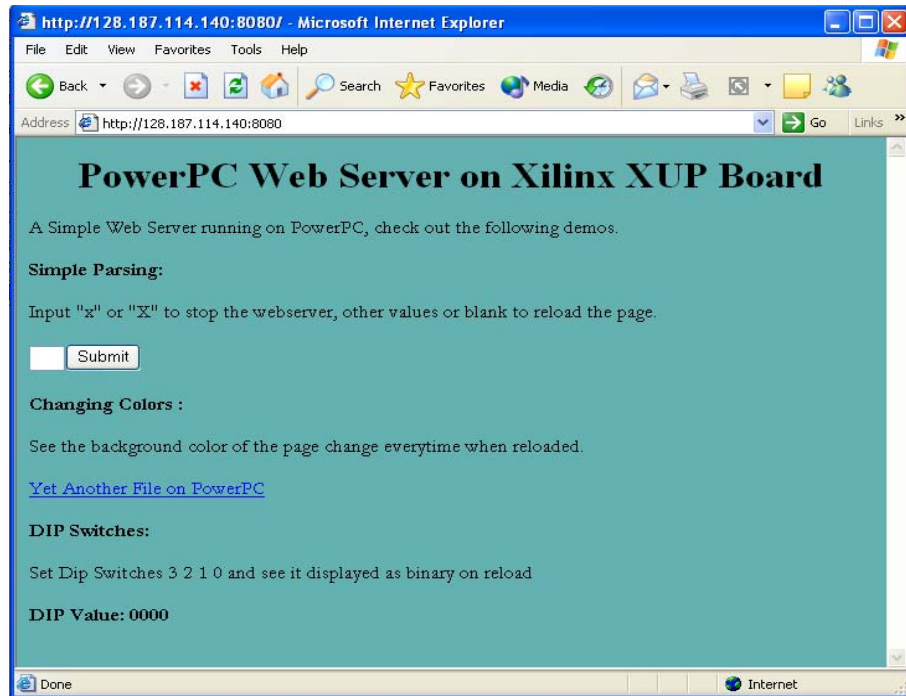

Figure D-13: Web Server Display
- Open a Web browser, and type in “http://YOUR XUP PRO BOARD IP ADDRESS:8080” in for the address, and you will see a Web page sent from the XUP Pro board as shown in Figure D-13.